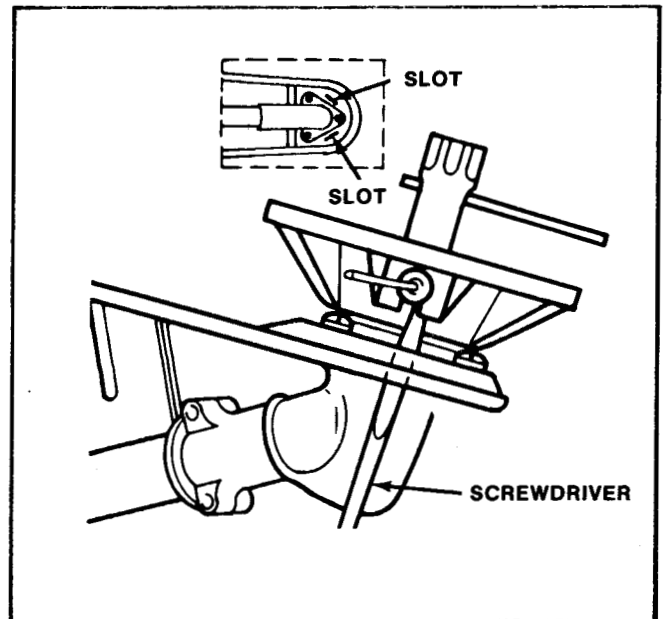

Figure 151
3. Insert a flat bladed screwdriver into the slot in the top of the shield to prevent the cutter head from rotating during spool removal. Remove the nut by turning *clockwise* (as viewed from the bottom of the spool). See Figure 151.
4. Insert a flat bladed screw driver into the slot in the top of the shield to prevent the cutter head from rotating as shown in Figure 151.